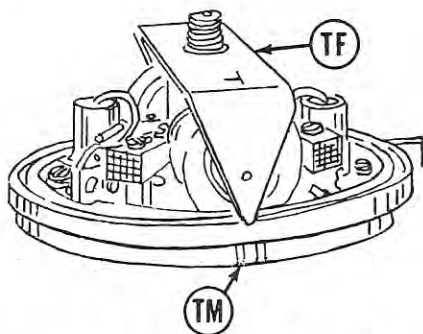

Fig. G84—Timing fixture (TF) installed and aligned with armature plate timing marks (TM) for adjusting points for the upper cylinder. Refer to text.
180° apart. The manufacturer provides a timing fixture (OMC Part No. 376969) to be used in adjusting and synchronizing the magneto. The fixture is installed on crankshaft in place of flywheel as shown in Fig. G84, and used in conjunction with a timing light of the type shown in Fig. G85.
To adjust the points using the timing fixture and light, remove the flywheel and install timing fixture, making sure it is properly fitted over flywheel key. Install timing light by attaching one clip to the insulated point (3—Fig. G86) and grounding the other clip. Bulb should light when points are closed, and go out when points are opened. Turn crankshaft until fixture pointer rests midway between the two embossed armature plate timing marks as shown in Fig. G84. Loosen the breaker point anchor screw (6—Fig. G86) and turn the adjusting screw (4) until points close and bulb lights up. Turn adjusting screw in opposite direction until points are barely open as indicated by timing light; then tighten the anchor screw (6). Turn crankshaft exactly 1/2-turn until opposite pointer of timing fixture is aligned with plate timing marks, then adjust the other set of points. NOTE: Timing fixture pointer legs are marked "T"